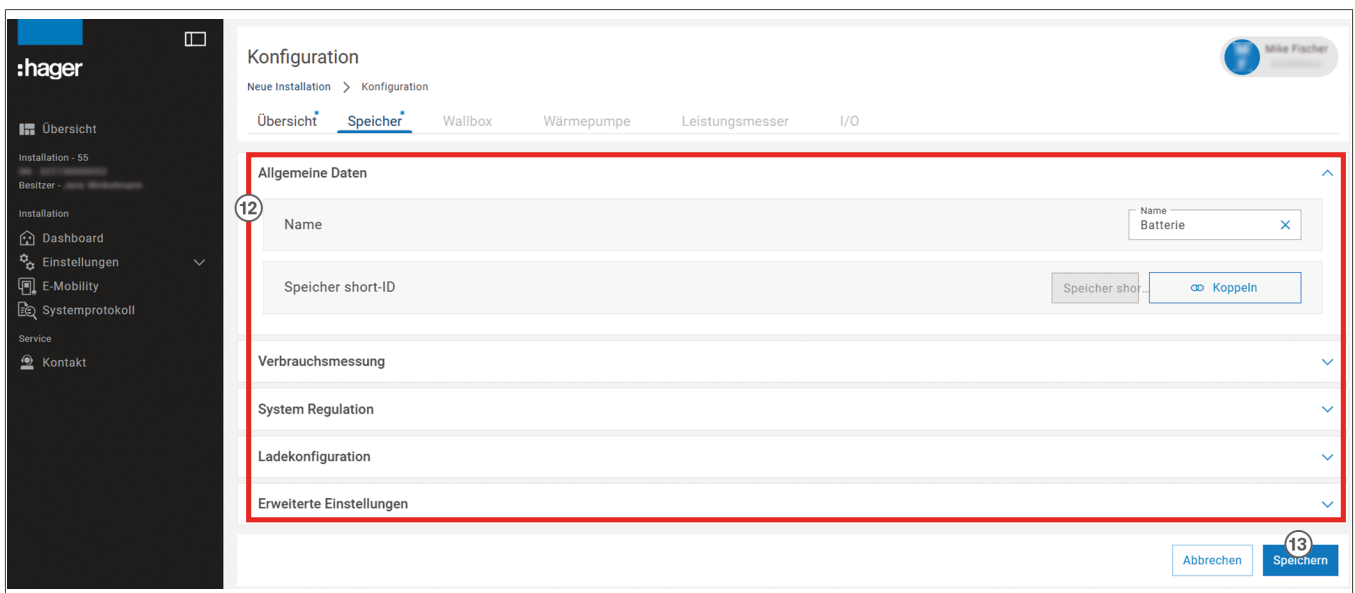

Fig. 41: Required storage system/inverter settings
- 5 Make the minimum required settings for the storage system/inverter (Fig. 41) and confirm with the **Save (13)** button, or discard with **Cancel**.